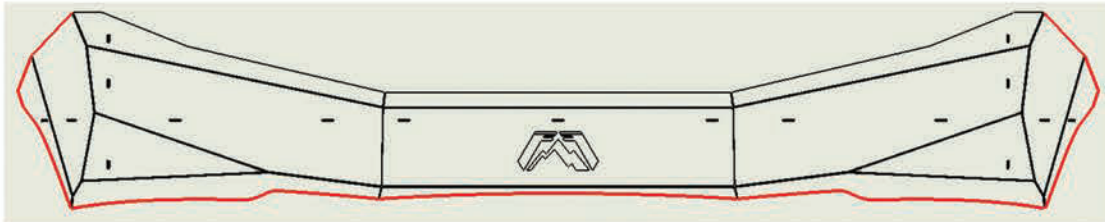

Fig 15
- g. Install the edge seal with adhesive onto the leading edge of the cowl as shown in **Fig 15** by the highlighted red line.